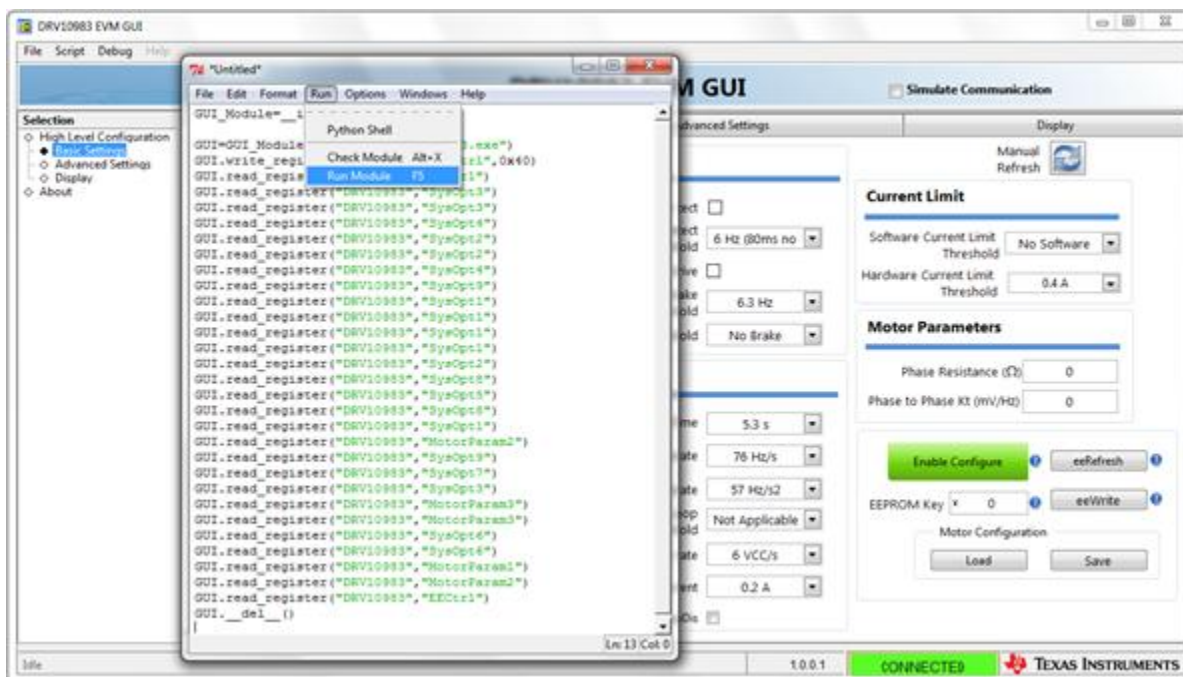

Figure 2-12 Run Macro
1. In the IDLE IDE menu bar, go to Run → Run Module as shown in Fig.2-12.